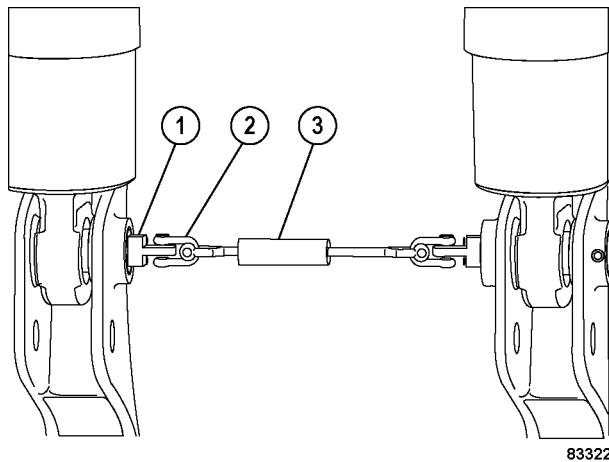

FIGURE 3-3. REAR SUSPENSION PIN REMOVAL TOOL
9. Install pin removal tool (1, Figure 3-3) to each lower pin using the capscrews listed in Table 1. Tighten the capscrews to $240 \pm 24 \text{ N}\cdot\text{m}$ ($177 \pm 17 \text{ ft lb}$).
10. Attach both shackles (2) to cylinder (3).